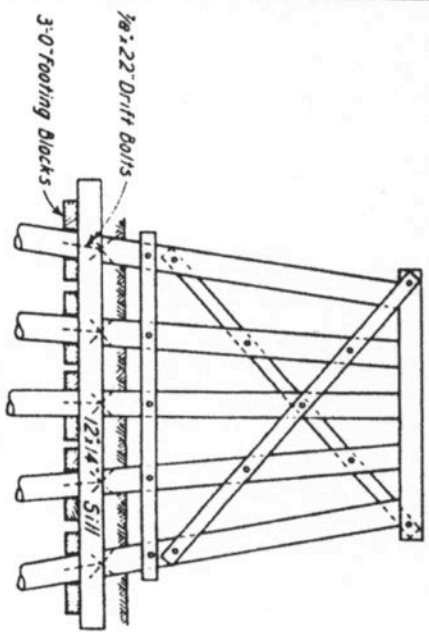

FIG. 1
- (b) When more than the above number of piles in any bent require splicing, the entire bent shall be cut off and a frame bent (with same number of posts as the piles cut off) shall be installed, as illustrated in Fig. 1.
8. When pile heads are soft or piles are settling, footing blocks shall be installed under the sill as shown in Figs. 1, 2 and 4. Footing blocks will be used only where condition of the piles does not provide an adequate bearing for the frame bent.